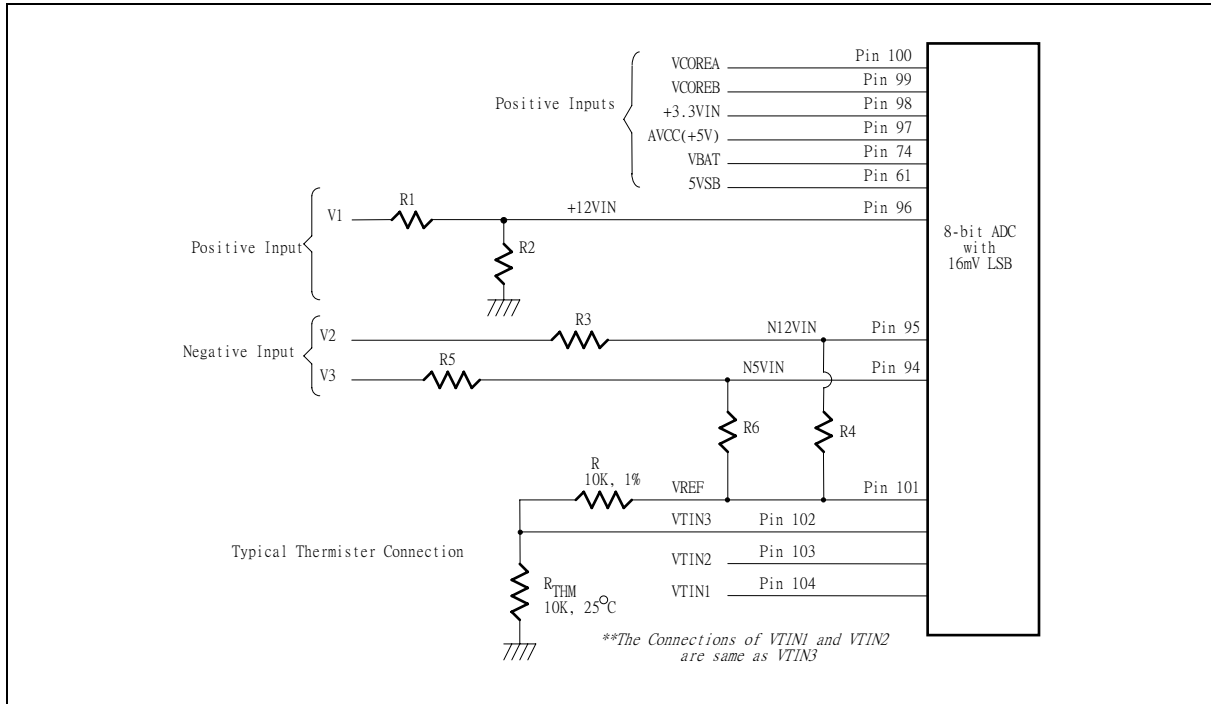

Figure. 8.2
The maximum input voltage of the analog pin is 4.096V because the 8-bit ADC has a 16mV LSB. Really, the application of the PC monitoring would most often be connected to power suppliers. The CPU V-core voltage, +3.3V, battery and 5VSB voltage can directly connected to these analog inputs. The +12V,-12V and -5V voltage inputs should be reduced a factor with external resistors so as to obtain the input range. As Figure 8.2 shows.
The negative voltage should be connected two series resistors and a positive voltage VREF (is equal to 3.6V) . In the Figure 8.2, the voltage V2 and V3 are two negative voltage which they are -12V and -5V respectively. The voltage V2 is connected to two serial resistors then is connected to another terminal VREF which is positive voltage. So as that the voltage node N12VIN can be obtain a posedge voltage if the scales of the two serial resirtors are carefully selected. It is recomanded from Winbond that the scale of two serial resistors are R3=232K ohm and R4=56K ohm. The input voltage of node N12VIN can be calculated by following equation.
The W83627HF can connect three thermistors to measure three different environment temperature. The specification of thermistor should be considered to (1) β value is 3435K, (2) resistor value is 10K ohms at 25°C. In the Figure 8.2, the thermistor is connected by a serial resistor with 10K Ohms, then connect to VREF (Pin 101) .